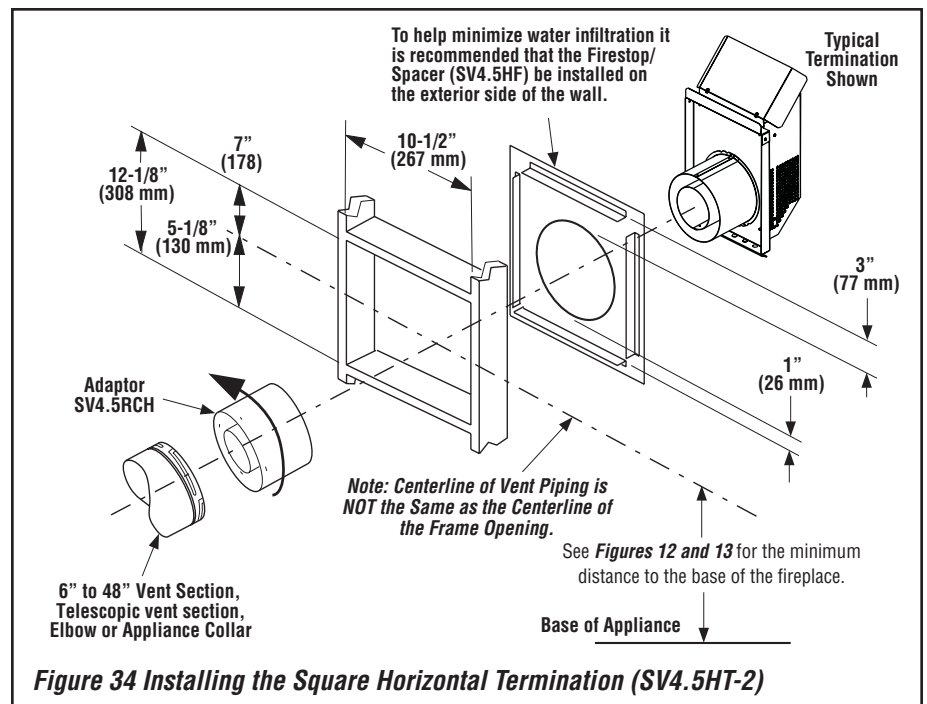

Figure 34 Installing the Square Horizontal Termination (SV4.5HT-2)
K. Attach termination adaptor - Attach the adaptor (adaptor - SV4.5RCH - provided with the termination) to the vent section or telescoping vent section), elbow or appliance collar as shown in **Figure 34** in the same manner as any SV4.5 vent component (refer to **Step E**).
L. Install Firestop/Spacer at exterior wall - When using the **square** termination, install SV4.5HF (SecureVent®), SF4.5HF (SecureFlex®) Firestop/Spacer over the opening at the exterior side of the framing, long side up, with the 3" spacer clearance at the top as shown in **Figure 34**, and nail into place.